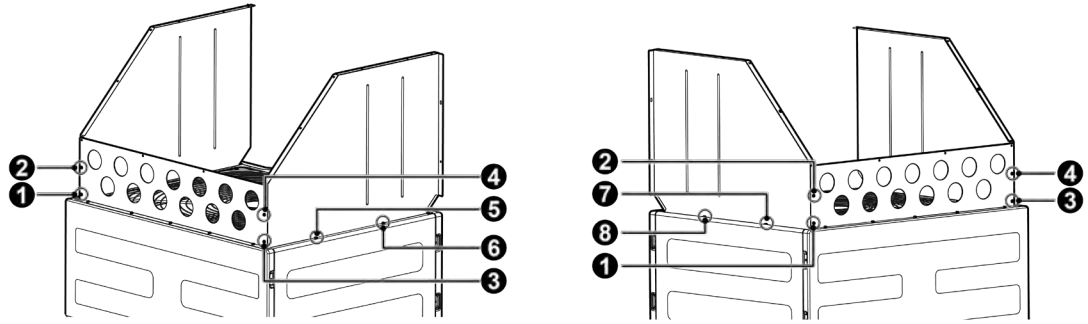

Fig. 3.5
Step 2: installation of side plate. During installation, the bottom edge of left side plate and right side plate shall be folded outwards. Please refer to Fig 3.5 for the installation location and sequence of screws.